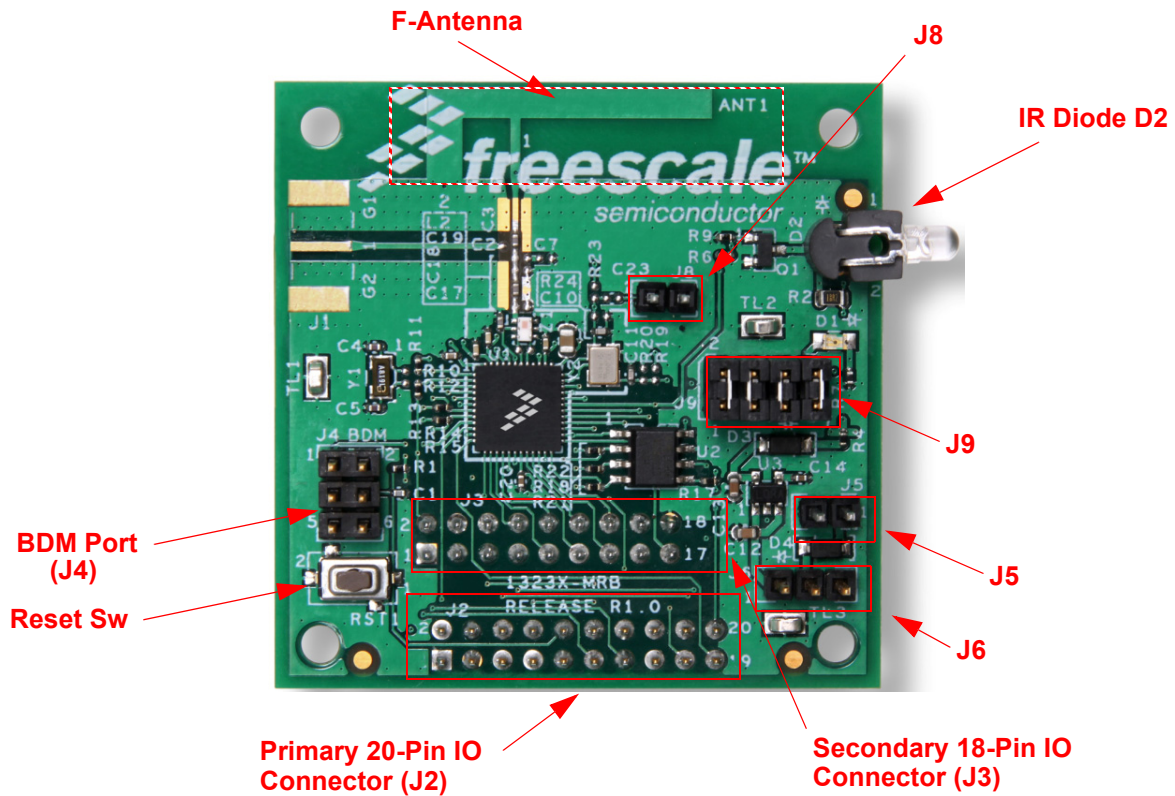

Figure 3-1. 1323x-Modular Reference Board (1323x-MRB)
Figure 3-1 shows the 1323x-MRB connector and header locations.
- Figure 3-1 for location of connectors and features
The reset circuit and BDM port connector are shown in Figure 3-7. See Figure 3-1 for switch and header locations.